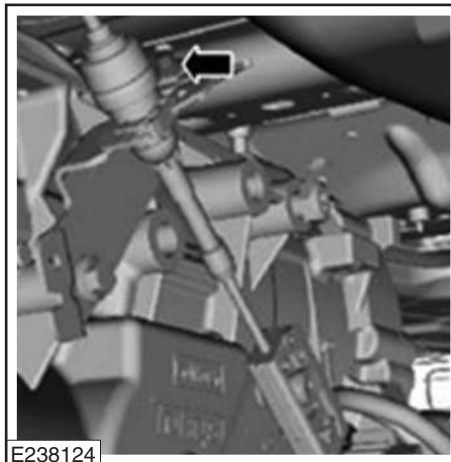

Figure 91
4. Remove the selector lever retainer bolt (**Fig. 91**).